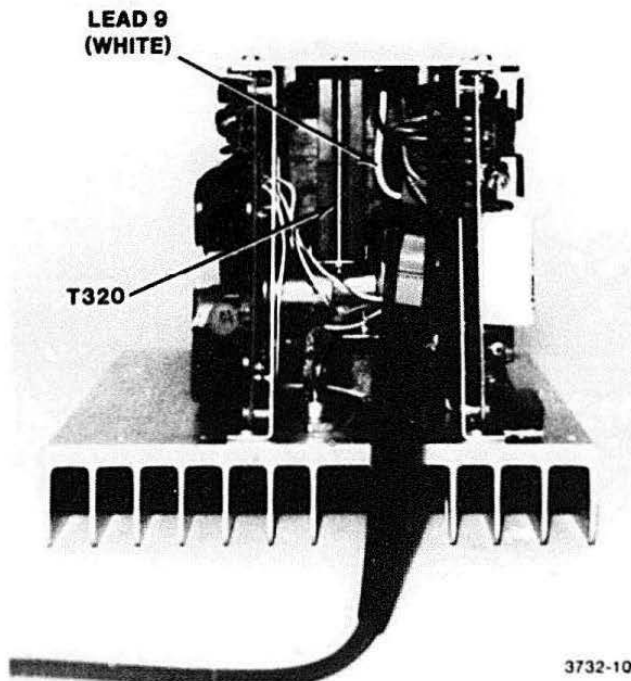

Figure 3-7. Connecting the Current Probe.
- a. Connect the current probe to Lead 9 of the inverter transformer (T320). This is the white wire located as shown in Figure 3-7.